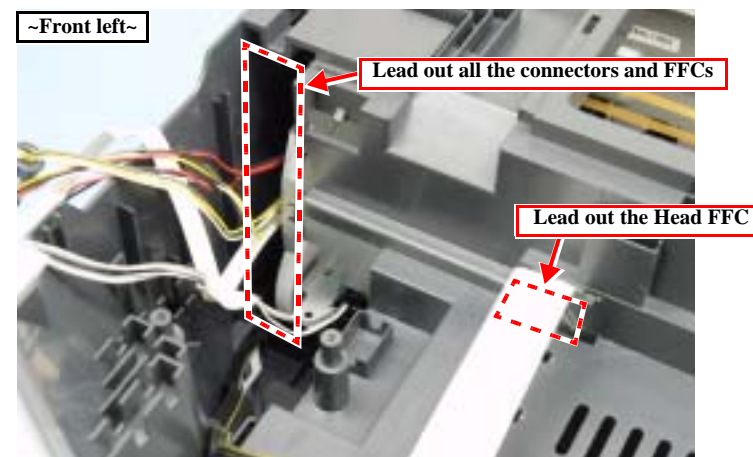

Figure 4-24. Leading out Connectors and FFCs
3. Lead out all the connectors and FFCs through the space shown in the figure and install the Middle Housing on the printer. (*Fig. 4-24*)